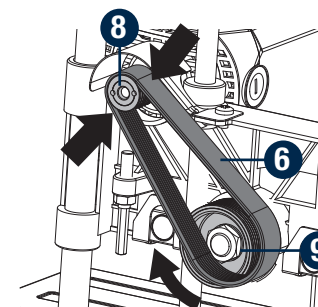

Fig. 19d
- Start a new timing belt (6) on the top pulley (8) with the grooves on the top pulley, as shown in Fig. 19d.
- Guide the belt to the lower pulley (9); with grooves engaged on the lower pulley, rotate the lower pulley clockwise. Keep pressure on the edge of the belt to keep the grooves engaged on the top pulley.